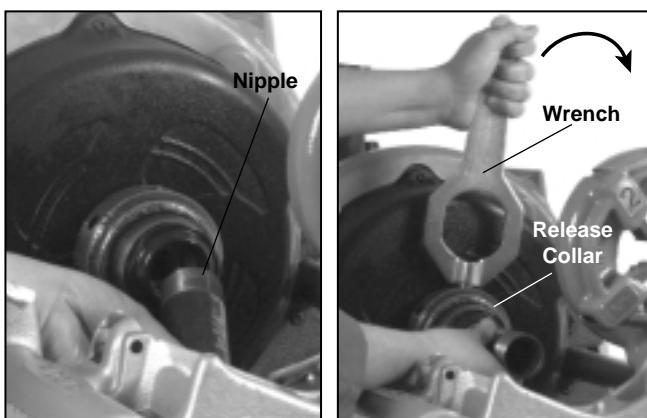

Figure 15 – Installing Unfinished Nipple and Releasing Finished Nipple with Wrench
5. Screw nipple into adapter and ream and thread other end. (Figure 15)